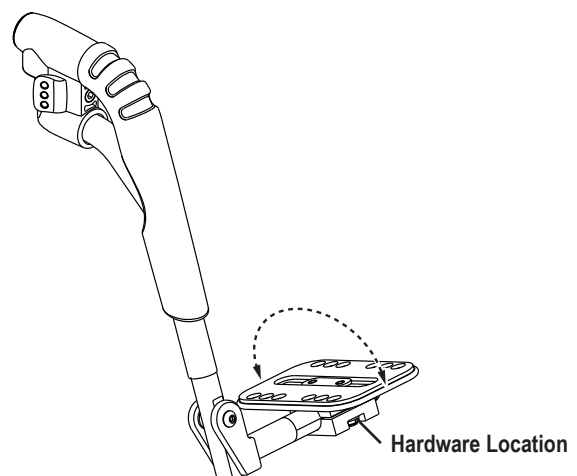

Figure 4. Foot Plate Angle Adjustment
1. Loosen the hardware on the bottom of the foot plate. **See figure 4.**
2. Adjust the foot plate to the desired position. **See figure 4.**